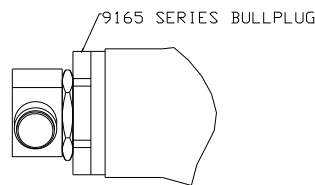

FIGURE 4
6. Screw elbow to face of 9165 bullplug body. SEE FIGURE 4